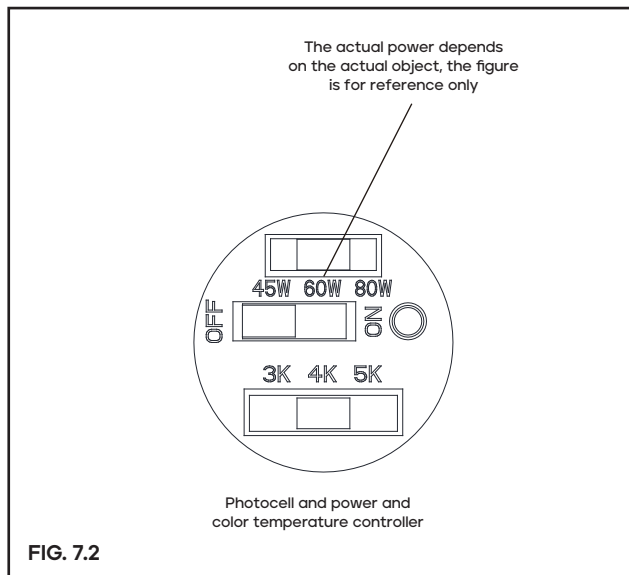
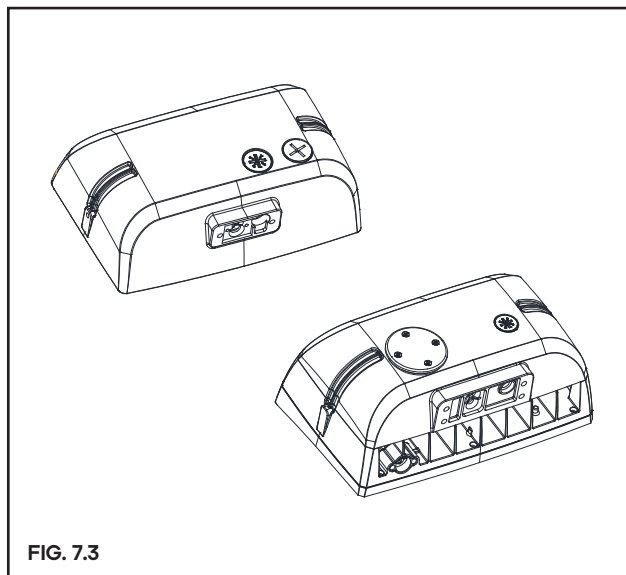

FIG. 7.2
FIG. 7.3
Step 3: After adjusting the required control function (Figure 7.2), tighten the metal plug and the plastic plug clockwise. (Figure 7.3)